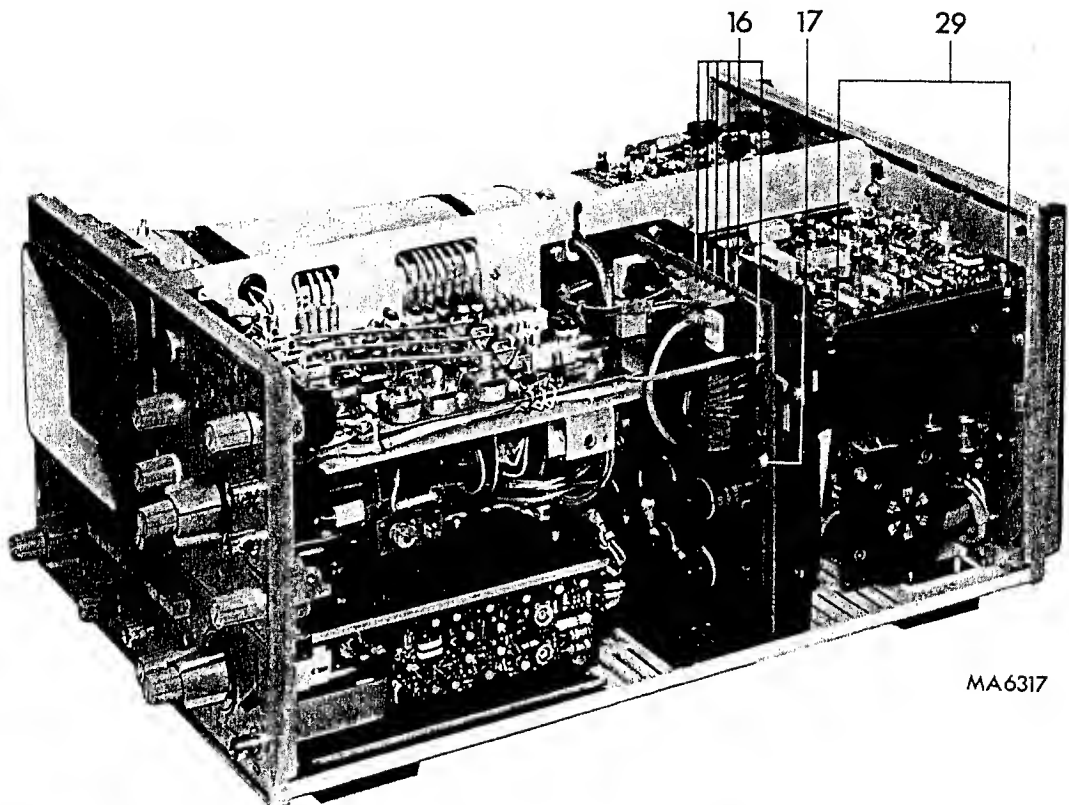

Fig. 40. Dismantling; view from the right
N. REMOVING COMBINATION UNIT 8 (Fig. 40)